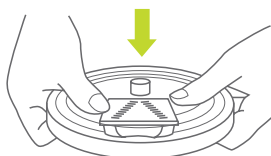

Fig. 11
1. With the processor bowl already fitted, place the slicing blade or other blade into the cutter holding disc. The blades should be placed into the disc as shown and clicked into place. (will only fit one way) (Fig. 11)